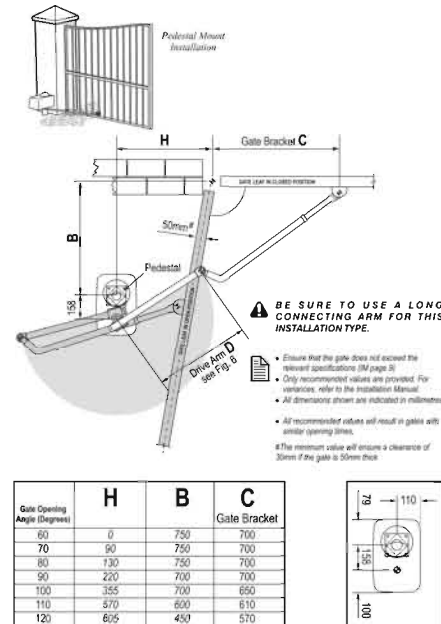

Figure 2 Standard Pedestal Mount Installation
- Then mark the operator's position according to figure 2 or 3. (IM page 15)
- Locate a suitable place for mounting the gate bracket according to dimension "C" in the tables of Figures 2 or 3.